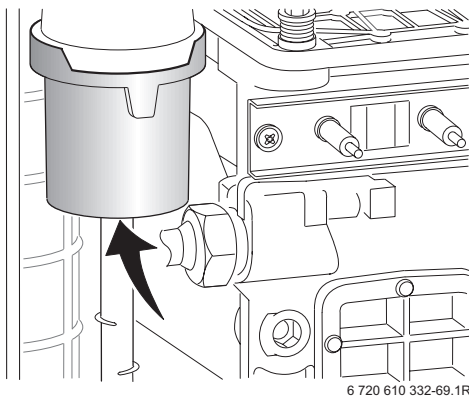

Fig. 47
- ▶ Unscrew the two fixing screws and carefully remove the electrode assembly. Refer to fig. 47.